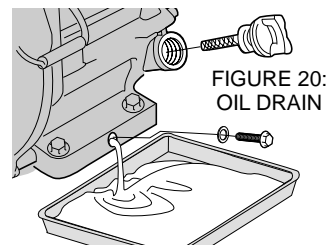

FIGURE 20:
1. Remove oil fill plug and drain plug to drain oil as shown in figure 20.